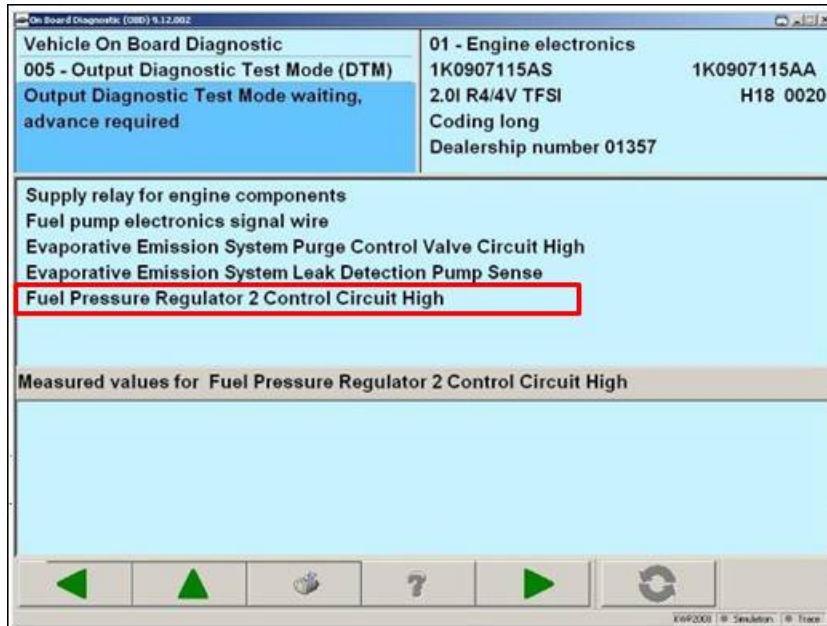

Figure 2
- When the test starts to check operation of the N276 pressure regulator (“fuel pressure regulator 2 control circuit high,” figure 2), listen for an audible “click” sound coming from the High Pressure Fuel Pump.